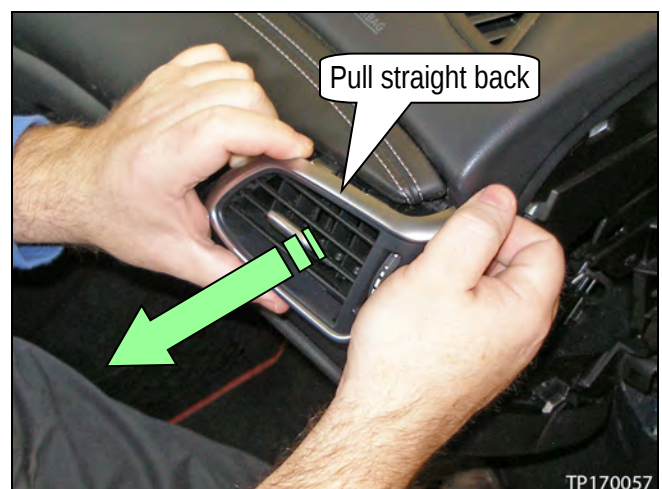

Figure 26
- b. Grab the side ventilator grille RH on both sides, and then unfasten the two outer clips by pulling straight back away from the instrument panel (see Figure 26).